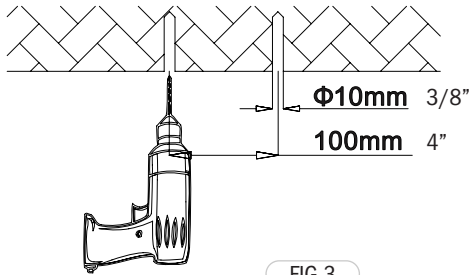

FIG.3
- 1 Use a marking pen or a sharp instrument to indicate the desired location on the mounting surface, then drill as shown in (Figure 3).